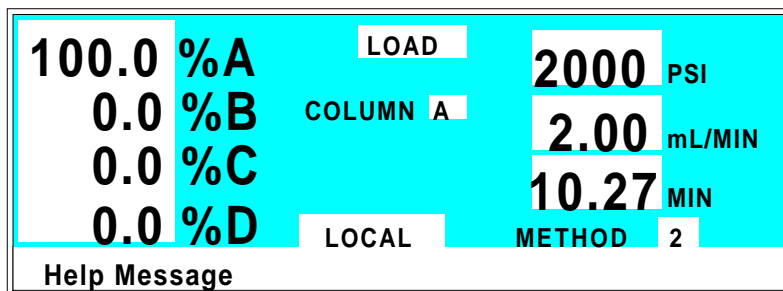

Figure 2-10. Main Screen
1. Open either the **MAIN** or **DETAIL** screen. The operating mode field displays either **LOCAL** or **REMOTE** (see Figure 2-10).
1. Open either the **MAIN** or **DETAIL** screen. The control mode field displays either **DIRECT CNTRL** or **METHOD** (see Figure 2-10).
When the pump is powered up, it is in Local mode (see Figure 2-10). In Local mode, the pump accepts operating commands from two sources: